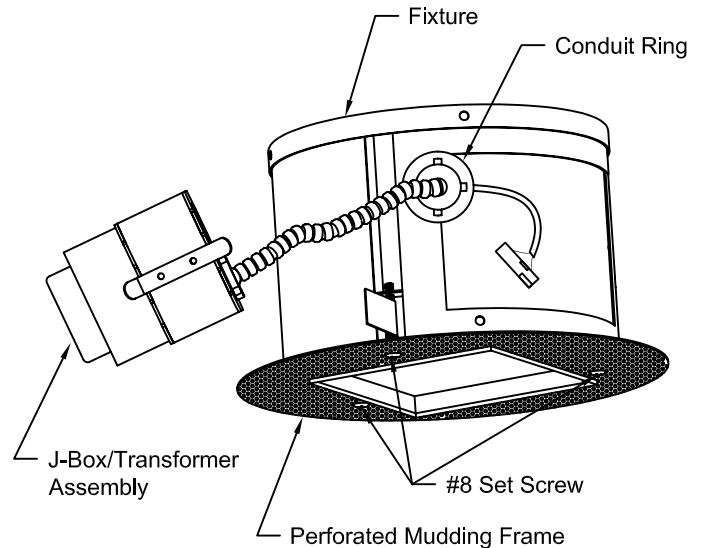

**Figure 4**
2. Fold three (3) Rotational Clamp Brackets tight against Fixture (See Fig. 4) making sure Brackets are in upper most (highest) threaded position (See Fig. 5) to accommodate largest ceiling thickness.